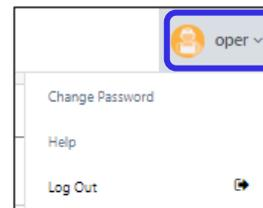

Figure 26: User drop-down menu
After logging in, the current username displays in the upper right corner of the screen. In Figure 26, the **oper** username is currently logged in.
1. Click the down arrow icon by the username in the upper right of the program window (Figure 26).